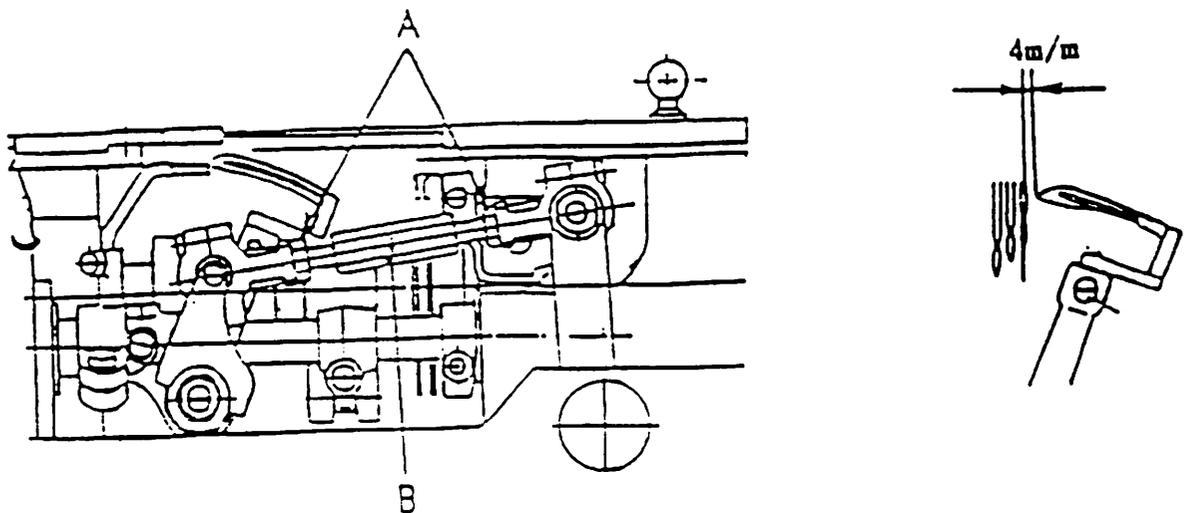

Fig. 8
(11) Distance between Loper and Needle (Fig 8)
When the needle is at its lowest position, loosen the nuts A shown in Fig 8, turn the connecting rod B, to adjust the distance between the looper point and the needle to 4mm, and tighten the nuts A.